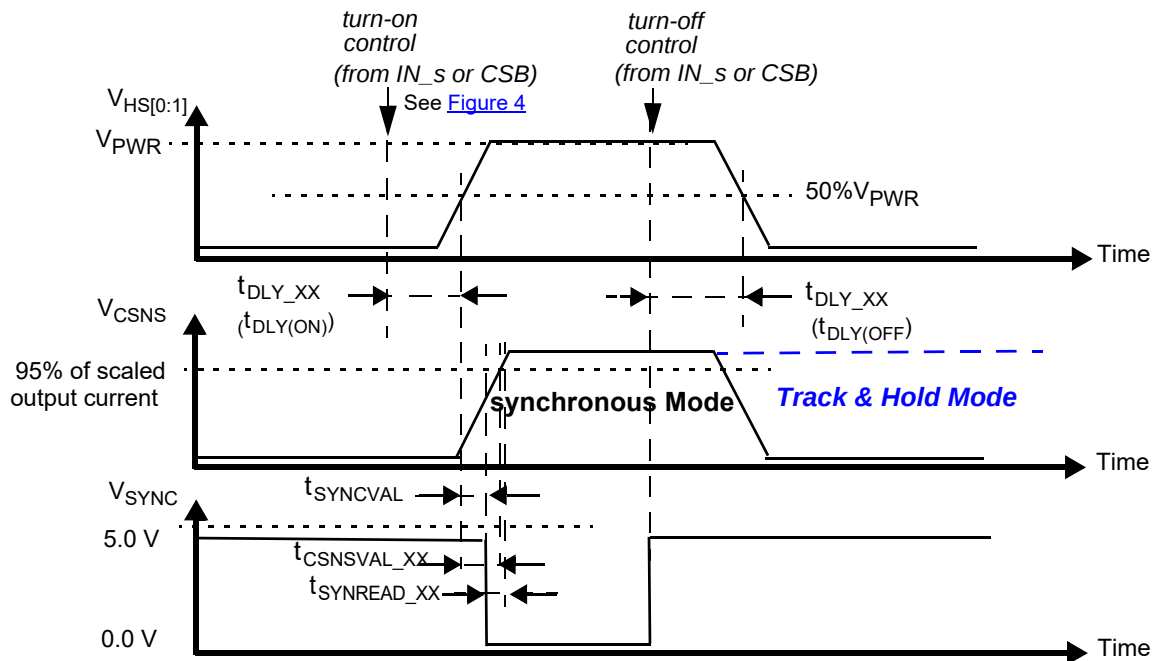

Figure 9. Synchronous and Track & Hold current sensing modes: associated delay and settling time
29. Time required to switch off the channel after detection of overtemperature (OT), overcurrent (OC), SC or UV error (time measured between start of the negative edge on the FSB pin and the falling edge on the output voltage until $V(\text{HS}[0:1]) = 50\%$ of V_{PWR}).
30. Settling time ($= t_{\text{CSNSVAL_XX}}$), SYNC output signal delay ($= t_{\text{SYNCVAL_XX}}$) and Read-out delay ($= t_{\text{SYNREAD_XX}}$) are defined for a stepped load current ($100\text{ mA} < I(\text{LOAD}) < I_{\text{OCLX A FOR CSNS_RATIO_S}} = 1$, AND $300\text{ mA} < I(\text{LOAD}) < I_{\text{OCLX A_0 FOR CSNS_RATIO_S}} = 0$). (see Figure 9 and Output current monitoring \(CSNS\))
The CS pin allows independent current monitoring of channel 0 or channel 1 up to the steady state overcurrent threshold. It can also be used to sense the device temperature. The different functions are selected by setting bits CSNS1_en and CSNS0_en to the appropriate value (Table 23). When the CSNS pin is sensed during switch-off in the (optional) Track & Hold mode (see Figure 9), it outputs the scaled value of the load current as it was just before turn-Off. When several devices share the same pull-down resistor, the CSNS pins of devices the current of which is not monitored must be tri-stated. This is accomplished by setting CSNS0_en = 0 and CSNS1_en = 0 in the GCR register (Table 10). Settling time ($t_{CSNSVAL_XX}$) is defined as the time between the instant at the middle of the output voltage's rising edge ($HS[0:1] = 50\%$ of V_{PWR}), and the instant at which the voltage on the CSNS-pin has settled to $\pm 5.0\%$ of its final value. Anytime an overcurrent window is active, the CSNS pin is disabled (see Overcurrent detection on resistive and inductive loads). The current and temperature sensing functions are unavailable in Fail-safe mode and in Normal mode when operating without the V_{DD} supply voltage. In order to generate a voltage output, a pull-down resistor is required ($R(CSNS)=1.0\text{ k}\Omega$ typ. and $470 < R(CSNS) < 10\text{ k}$). When the current sense resistor connected to the CSNS pin is disconnected, the CSNS voltage is clamped to $V_{CL(CSNS)}$. The CSNS pin can source currents up to about 5.6 mA.
To synchronize current sensing with an external process, the SYNC signal can be connected to a digital input of an external MCU. SYNC is asserted logic low when the current sense signal is accurate and ready to be read. The current sense signal on the CSNS pin has the specified accuracy $t_{SYNCREAD_XX}$ seconds after the falling edge on the SYNC pin (Figure 9) and remains valid until a rising edge is generated. The rising edge that is generated by the SYNC pin at the turn-OFF instant (internal or external) may also be used to implement synchronization with the external MCU. Parameter $t_{SYNCVAL_XX}$ is defined as the time between the instant at the middle of the output-voltage rising edge ($HS[0:1] = 50\%$ of V_{PWR}), and the instant at which the voltage on the SYNC-pin drops below 0.4 V (V_{SOL}). The SYNC pins of different devices can be connected together to save μ -controller input channels. However, in this configuration, the CSNS function of only one device should be active at a time. Otherwise, the MCU does not determine the origin of the SYNC signal. The SYNC pin is open drain and requires an external pull-up resistor to VDD.